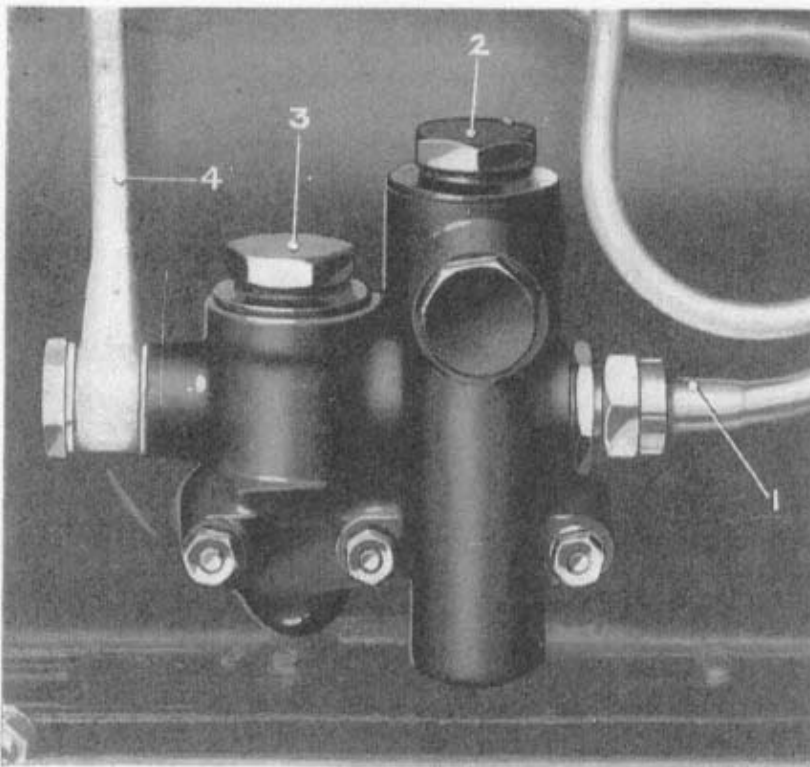

Fig. 8.—OIL RELIEF VALVES.
A drilling through the casting conveys oil to a double relief valve located in an accessible position on the right-hand side of the crank-case. (See Fig. 8.)
Oil passing the high-pressure valve (3, Fig. 8) enters the low-pressure chamber, and from there via pipe (4) to the inlet valve rocker shaft.
If it should be suspected that the relief valves are not working properly, they can be inspected by removing the plugs (3), above the high-pressure valve, and (2), above the low-pressure valve (Fig. 8).
The centre pedestal of the inlet valve rocker shaft is drilled and communicates through an oil hole in the head with a union on the right-hand side, to which pipe (4, Fig. 8) is connected.